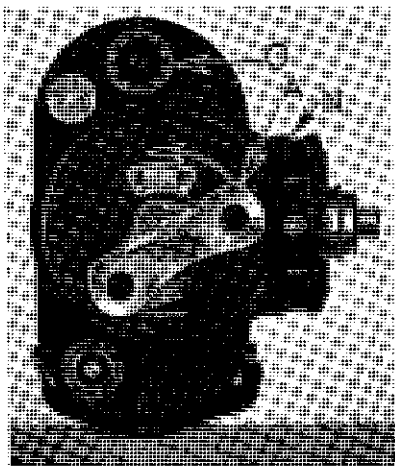

Figure 2
1. Wind the spring motor by turning the ratchet winding key A, Figure 2, to the left (counter-clockwise) until it stops (do not force it).
12. Test the correctness of the loading and threading by pressing the starting button N, Figure 2, quickly and momentarily a few times, watching to see that the leader runs through the sprockets and aperture channel and that it is being taken up by the take-up spool. Correct any errors which are discovered by this test.
14. Set the footage dial (O, Figure 2) at 96 by turning it with the thumb and finger. Start the camera and let it run until the footage dial registers zero. This is done to run through the four feet of leader which was left on the feed spool when you closed the camera. The film itself is now at the aperture and your camera is ready for use.